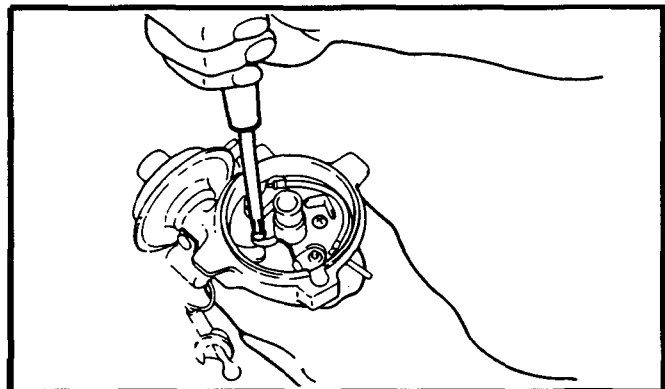

Figure 44. Breaker Point Removal
4. Remove the breaker point mounting screws and remove the breaker points. See Figure 44.